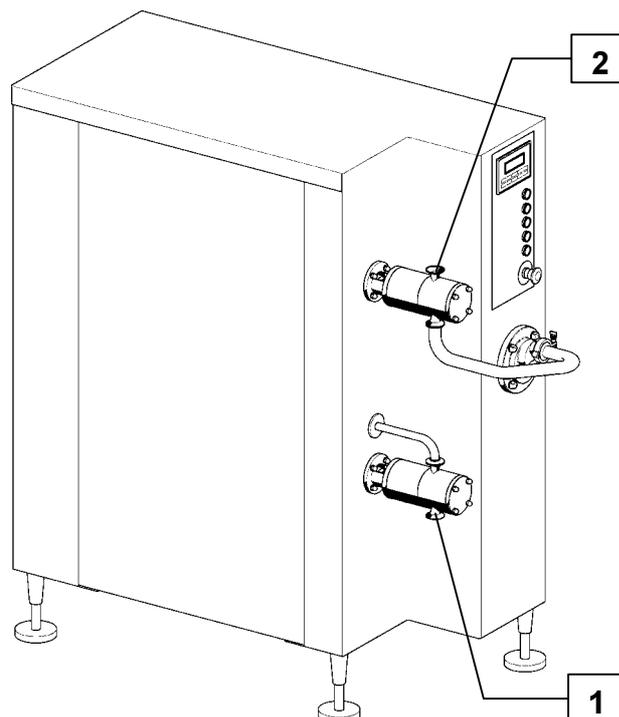

Fig. 7-1 – CIP washing
- 1) Connect the C.I.P. sending pipeline to the mix inlet (Fig. 7-1 pos. 1) and the ice cream offload line (Fig. 7-1 pos. 2) to the blow-by tank return one.